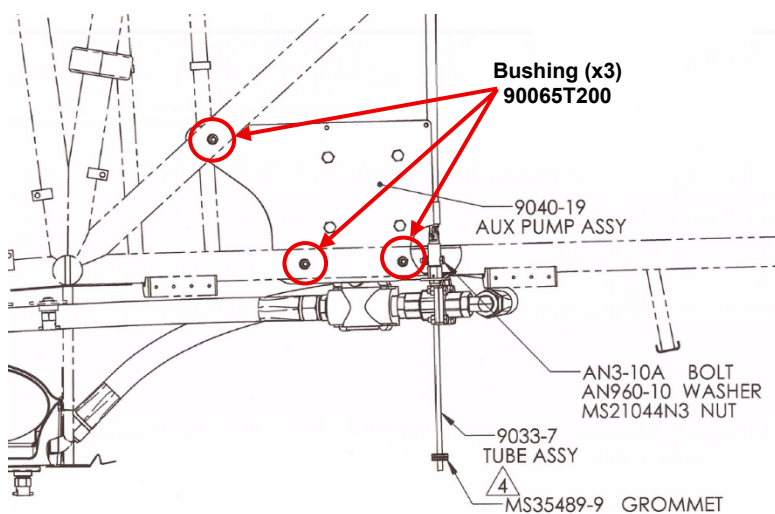

Figure 2
2. Clamp Bracket to airframe and drill 0.25" (6.35mm) hole through upper attach point then deburr. (Reference Figure 2)
3. Loose-install hardware in upper attach point. (Reference Figure 2)
6. Locate drain tube to ensure it is oriented straight up and down, not at a slant or diagonal. (Reference Figure 2)
11. Install grommet. (Reference Figure 2)
12. Install drain tube. (Reference Figure 2)